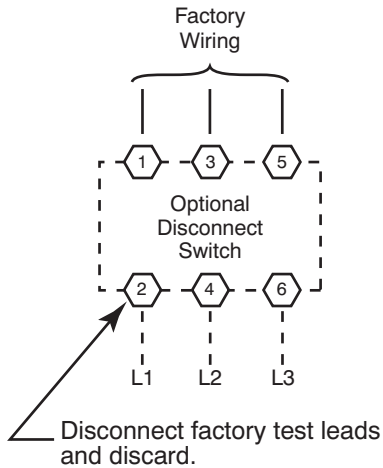

Fig. 29 — Power Wiring Connections
Field power wires are connected to the unit at line-side pressure lugs on compressor contactor C and indoor fan contactor IFC (see wiring diagram label for control box component arrangement) or at factory-installed option non-fused disconnect switch. Max wire size is #4 AWG (copper only). (See Fig. 29.)
2. Install power lines to terminal connections as shown in Fig. 29.
Field power wires are connected to the unit at line-side pressure lugs at the main terminal block (TB1) or at factory-installed option non-fused disconnect switch. Max wire size is #2 AWG (copper only). See Fig. 29.